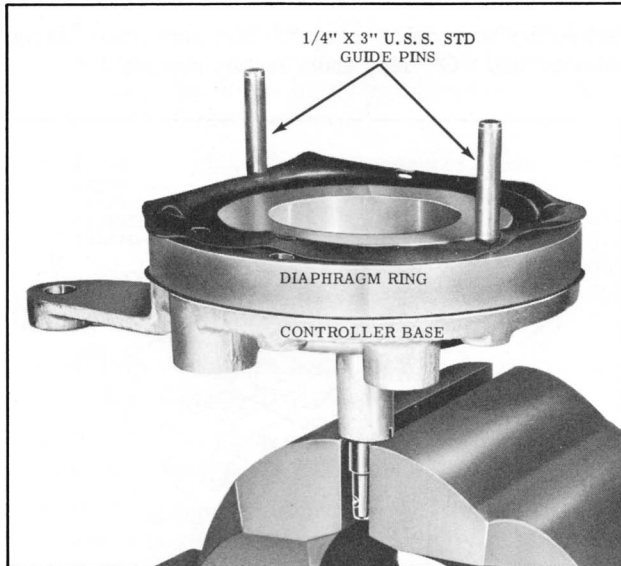

Fig. 8-114 Diaphragm Alignment
5. Install two guide pins 1/4" x 3", U.S.S. standard bolts, in the controller base. (Fig. 8-114)